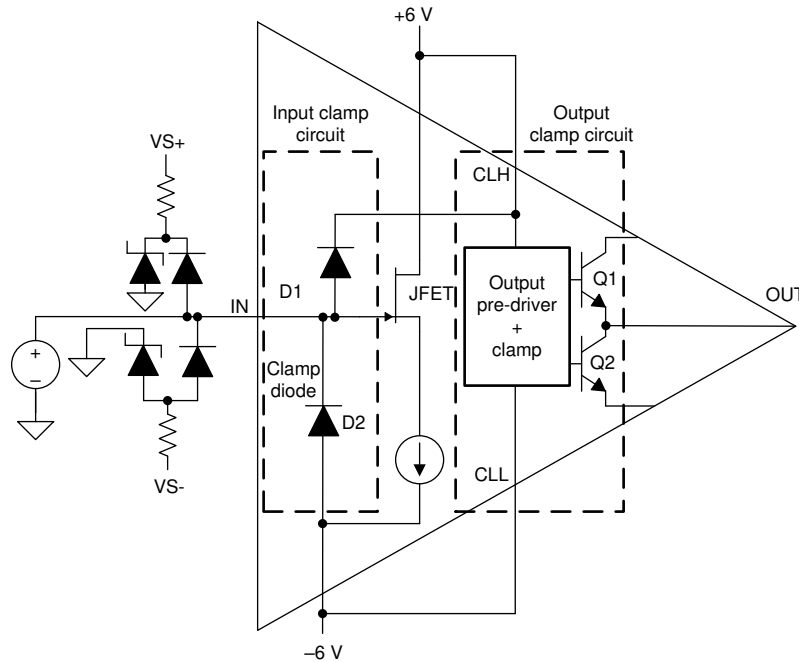

图 8-3. External Input Clamp Circuit
- 图 8-3 shows how the external clamping diodes can be used in cases where the 100 mA current rating of D1 and D2 is insufficient. When using external clamping, disable the internal protection of the BUF802 by connecting CLH and CLL to  $V_{S+}$  and  $V_{S-}$ .
- As shown in 图 8-3, the internal clamps can be disabled by connecting CLH and CLL to  $V_{S+}$  and  $V_{S-}$  respectively. When the clamps are disabled, the maximum output swing is limited by the output swing specification described in 节 6.5. The response time and accuracy of the output clamp is shown in 节 6.7.